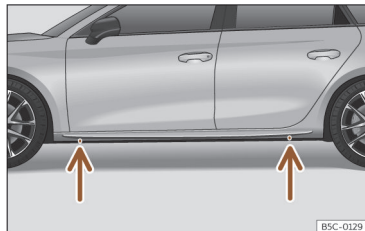

Fig. 244 Jack position points.
- Look on the strut for the mark of the jack support point (sunken area) closest to the wheel to be changed >>> **Fig. 244**.